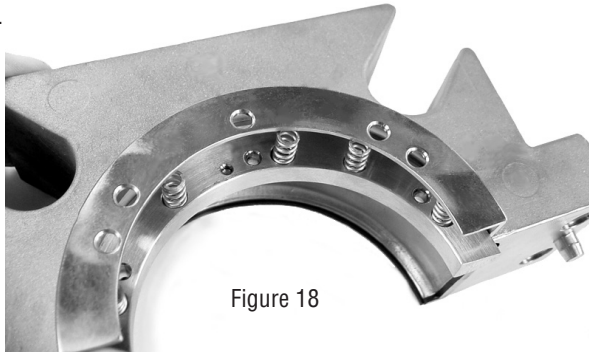

Figure 18
- 7.2 Set the gland half face down on the table and insert half of the spring holder into the gland. See Figure 18.